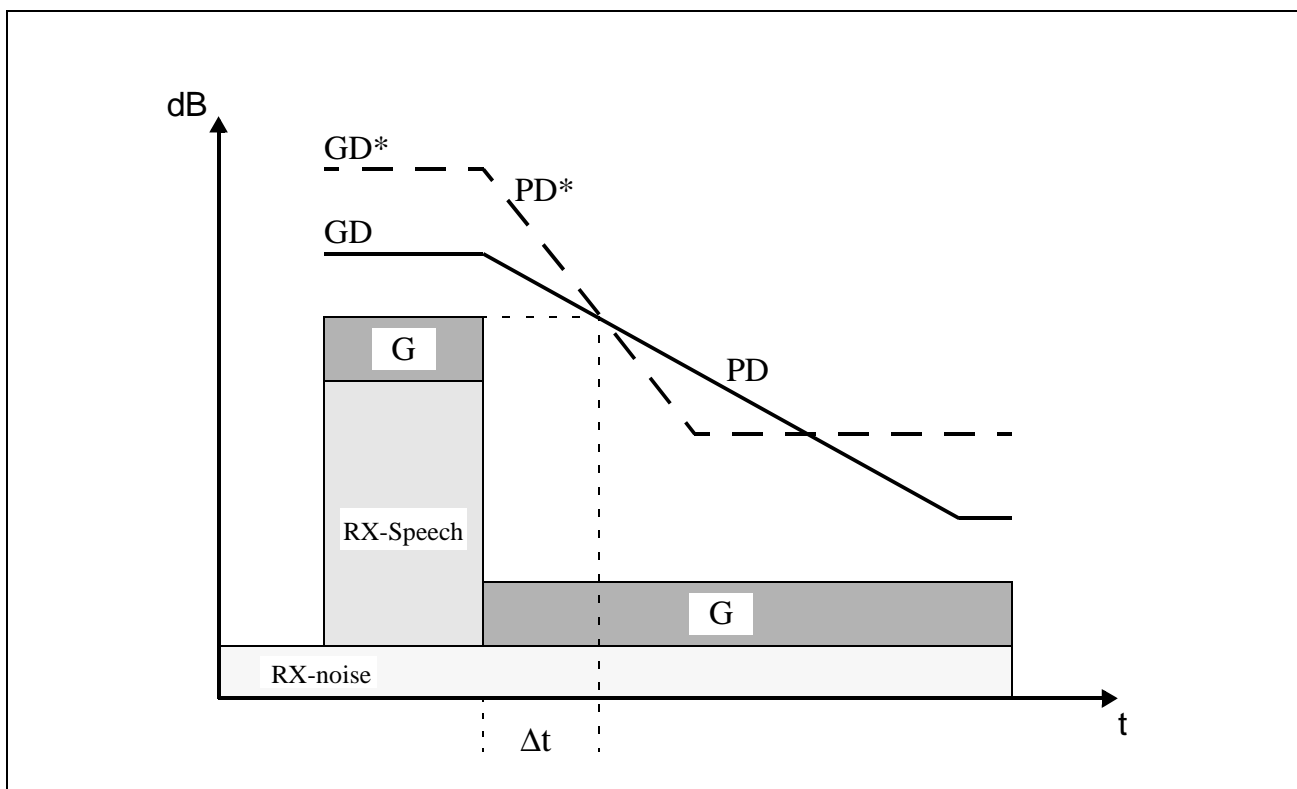

Figure 21 Speech Comparator - Interdependence of Parameters
According to figure 21, a compromise between the reserve GD and the decrement PD has to be made: a smaller reserve (GD) above the level enhancement G requires a longer time to decrease (PD). It is easy to overshoot the other side but the intercommunication is harder because after the end of the speech, the level of the estimated echo has to be exceeded. In contrary, with a higher reserve (GD\*) it is harder to overshoot continuous speech or tones, but it enables a faster intercommunication because of a stronger decrement (PD\*).